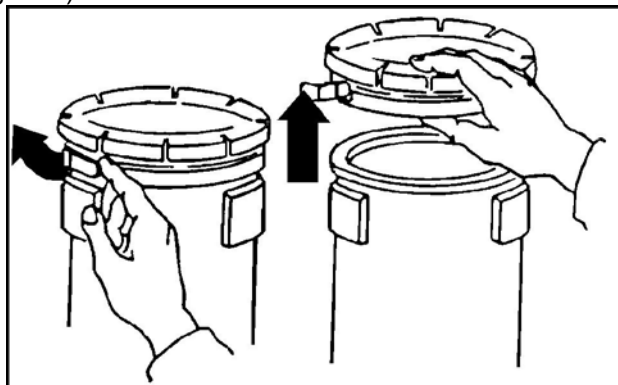

Figure 4. Handling ring.
- 7. Remove the forward handling ring from the nose end of the TOW. Release the clamp and remove the handling ring (Figure 4).